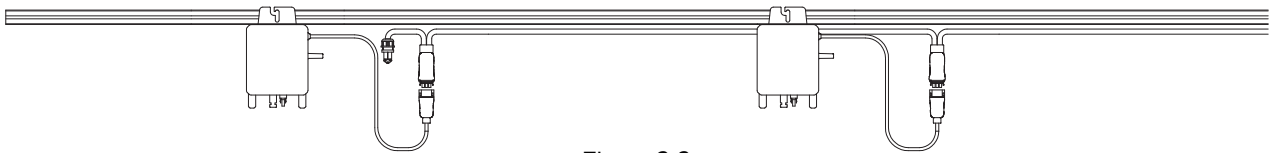

Figure 2.3
c) Connect the male and female ends of the AC connector securely, then attach it to the distribution box. As shown in Figure 2.3.